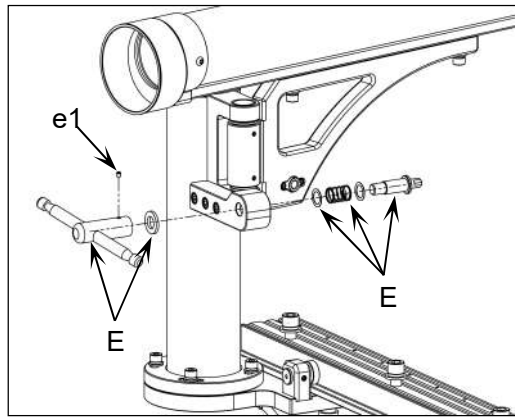

Fig. 11
4. As shown in **Fig. 11**, separate the pre-assembled locking handle (**E**) and install it onto the lock block from both sides, as shown by the arrows. Align the cantilever arm parallel to the rail and tighten the handle to secure it.